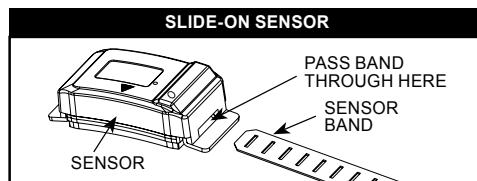

Figure 3: Feed band through sensor
3. Pass the end of the band through the sensor and slide sensor to within a few inches of the band clamp screw. See *Figure 3*.